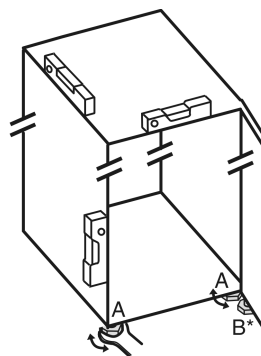

Fig. 46
- ▶ Unscrew the adjustable feet *Fig. 46 (A)* using the enclosed open-end spanner and a spirit level until the appliance is firmly aligned and level.
- ▶ Unscrew the adjustable foot *Fig. 46 (B)* on the swap bearing block with the enclosed open-end spanner until it rests on the floor.
- ▶ Turn the adjustable foot *Fig. 46 (B)* 90° further.